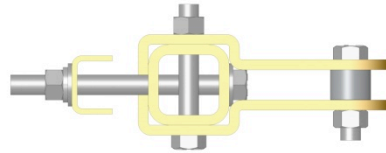

Fig. 5
7. If a bow shackle will be used to connect an SRL to the Ladder Stanchion, proceed to Step 8 without inserting the Spacer. If a carabiner is to be used to install an SRL to the Stanchion, the Spacer must be installed. To install the Spacer, slide the Head Spacer down between the two tips of the Head sideplate and align with the holes (see Fig. 5). Secure in place with the Spacer bolt and nut.